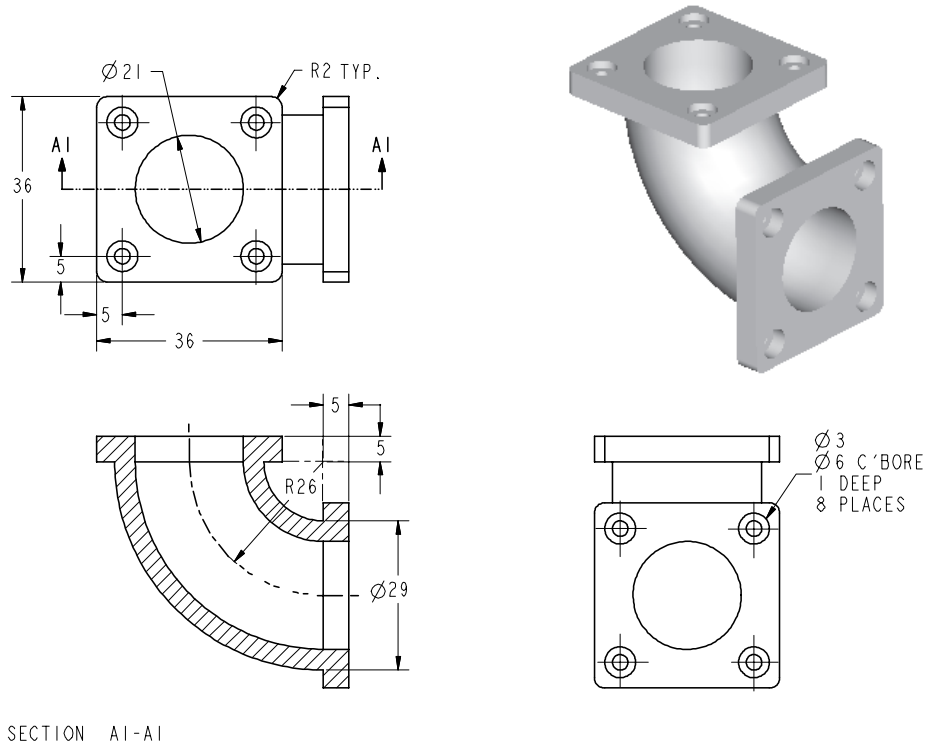

Figure 7-34 Top, front, right-side, and isometric views of the model. The hidden lines are suppressed for clarity
In this tutorial you will create the model shown in Figure 7-34. This figure also shows the sectioned front view, top view, and the right side view of the solid model with dimensions.
- First, examine the model and determine the number of features in it. The model is composed of six features, see Figure 7-34.